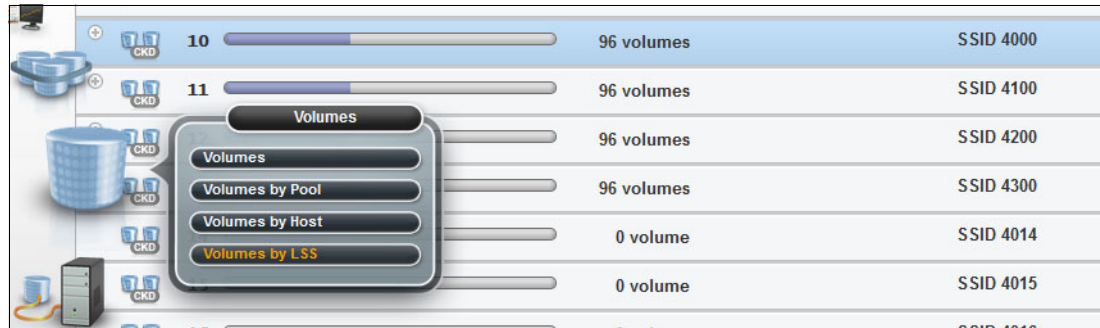

Figure 11-101 Create aliases for the LSS
2. Select the LSS for which to create aliases and right-click the LSS, as shown in Figure 11-101.